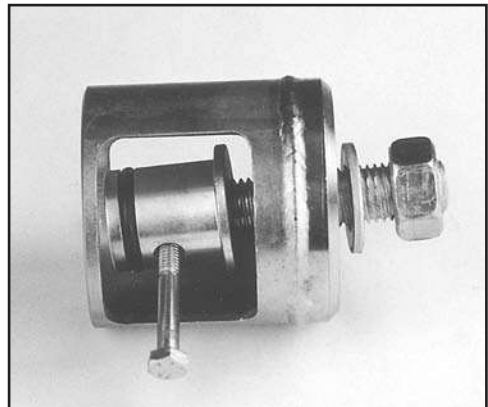

FIG. 65: DISASSEMBLY TOOL
15. Place the control tube end into the disassembly tool (see Fig. 65) until the bore of the tool overlaps the bores of the control tube.